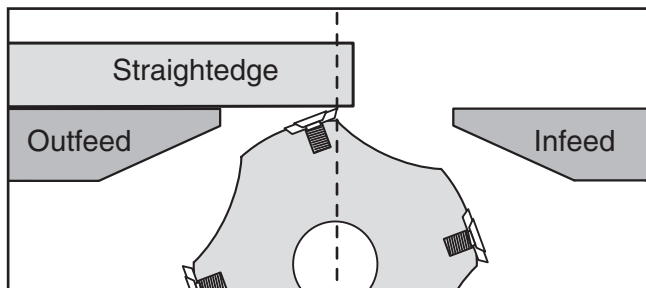

Figure 46. Using straightedge to check outfeed table height.
When correctly set, cutterhead insert will barely touch straightedge when cutterhead is rotated back and forth with pulley, as shown in **Figure 46**.
6. Use outfeed table adjustment handwheel to set outfeed table height so cutterhead insert barely touches straightedge, as shown in **Figure 46**.